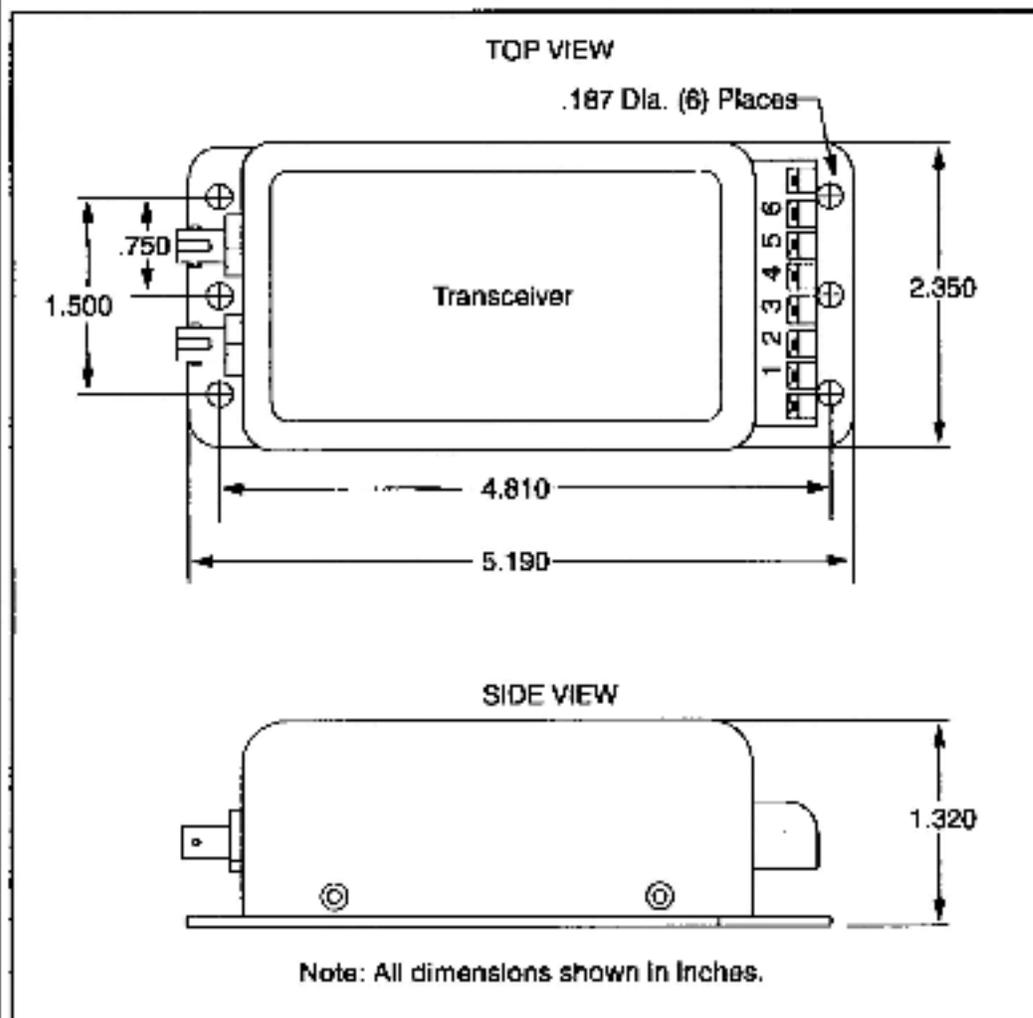

Figure L2.1 - Stand-Alone Transceiver Mounting Dimensions
| Figure L2.1 - Stand-Alone Transceiver Mounting Dimensions | L-10 |
- Step 1. Prepare the mounting surface using the mounting dimensions shown in figure L2.1 for the correct placement of the holes.